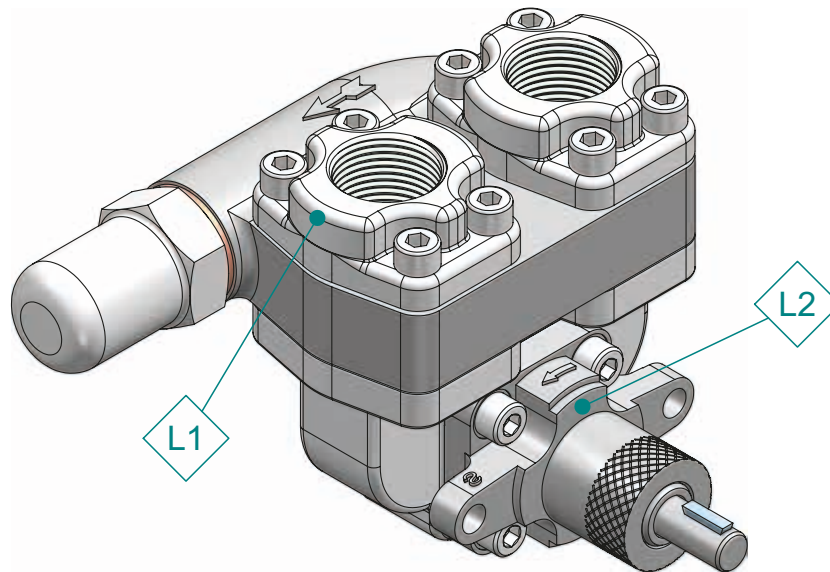

Fig 1 – Locations of temperature sensors (optional)
Surface temperature sensors should be applied in the following areas, see figure 1:
- Monitoring of the surface temperatures of the pump casing at indicated areas (see figure 1) and controlling or monitoring the quench medium in case of a quenched shaft seal ensures sufficient protection against potentially dangerous situations.